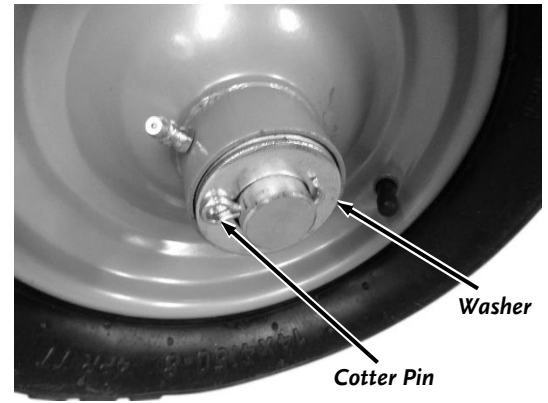

Figure 11
- Secure the Wheel onto the Axle with a Cotter Pin. Use Pliers to bend the ends of the Cotter Pin to secure the Wheel (**Figure 11**).